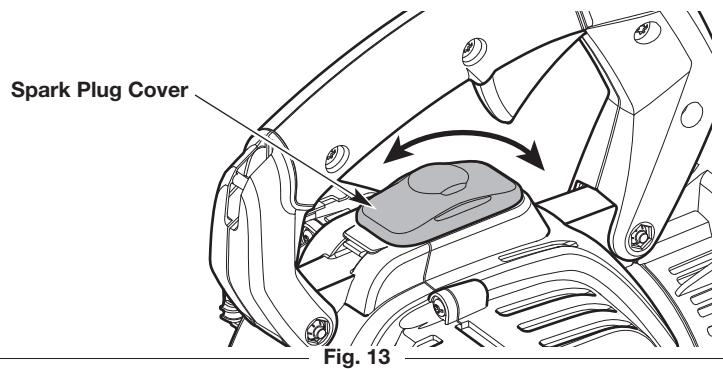

Fig. 13
2. Open the spark plug cover (Fig. 13). Grasp the spark plug boot firmly and pull it from the spark plug.